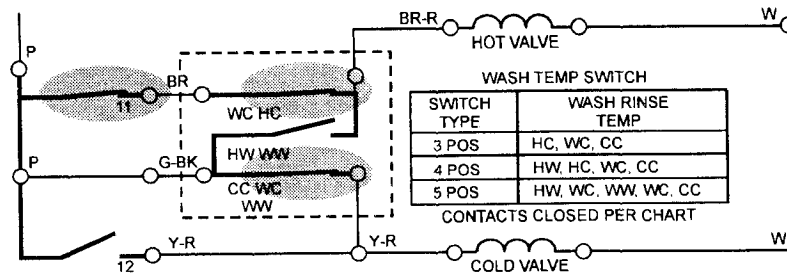
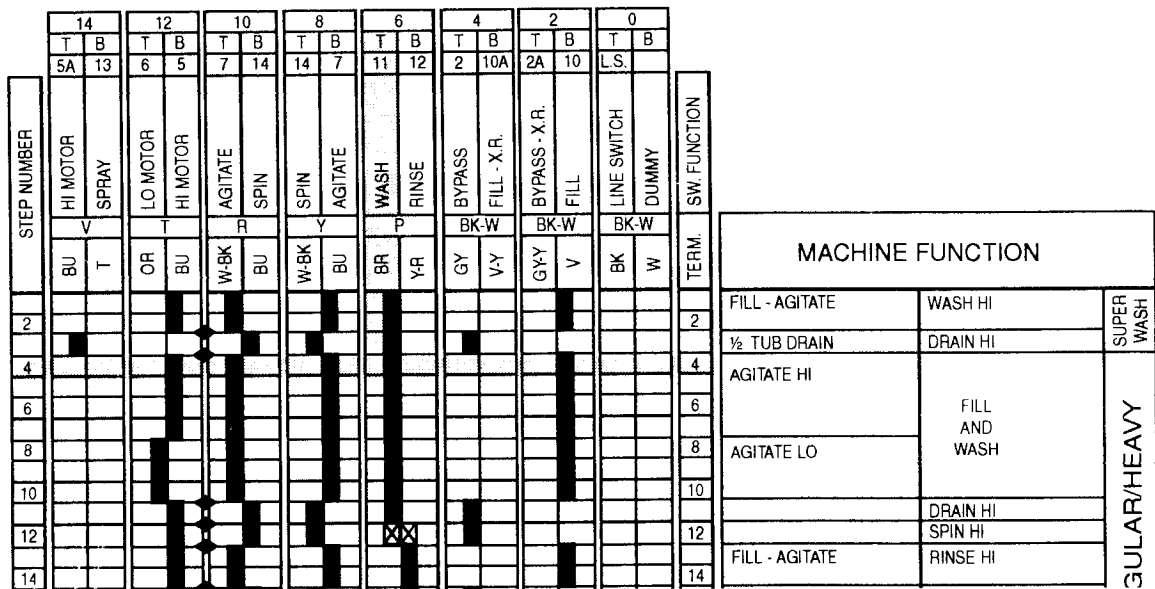

Fig. 21
Fig. 22
5. The water temperature is selected by several switches that are set for mixing hot and cold water during the fill. Selecting a WARM wash with a COLD rinse closes these switches. (Fig. 21) The cycle sequence chart shows us that timer contact 11 is closed during the wash cycle. (Fig. 22)